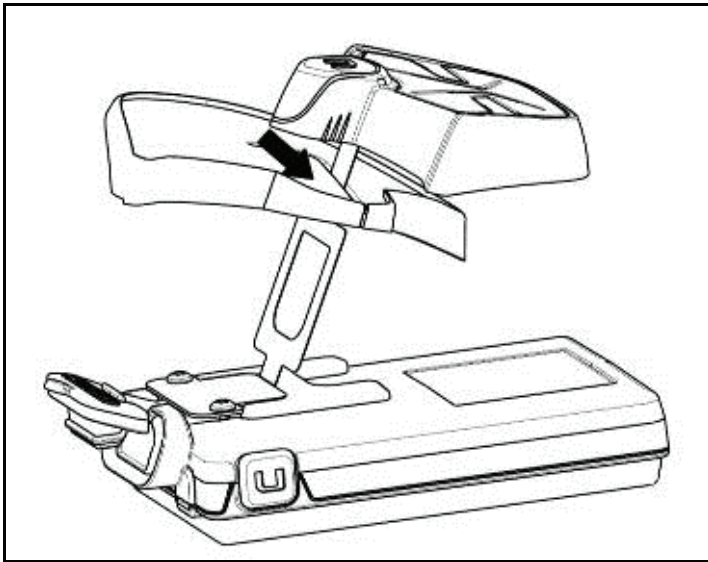

Fig. 4
- Insert the FLEX cable of the ESS system in the hole of the selected adapter as illustrated, in the direction shown in the image (Fig. 4);